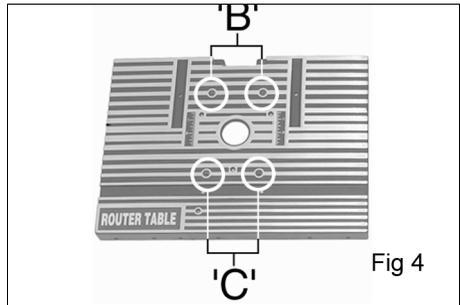

Fig 4
4. Repeat item 3 above for opposite table leg.
8. Insert two 50mm long coach bolts into holes 'B' from the top of the table. Fig. 4.
3. Set the router in position on the underside of the table as central as possible, see Fig. 11. Insert two coach bolts into holes 'C' fig. 4 from the table top, which is now underneath.